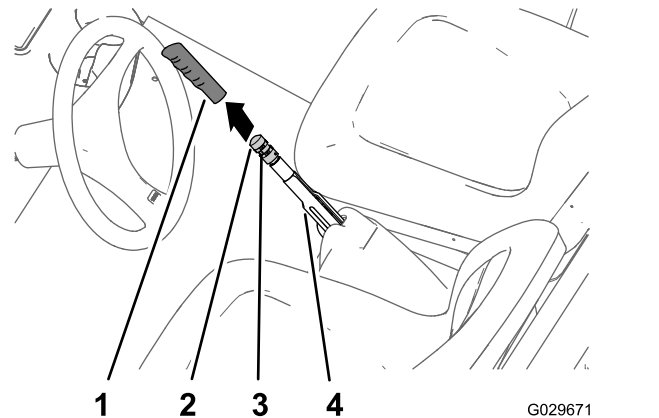

Figure 56
1. Remove the handgrip from the parking-brake lever (Figure 56).
2. Loosen the set screw securing the brake-adjustment knob to the parking-brake lever (Figure 56).
3. Rotate the brake-adjustment knob until you reach a force of 133 to 156 N (30 to 35 lbf) to engage the parking-brake lever (Figure 56).
4. Tighten the set screw and install the hand grip (Figure 56).
2. Loosen the set screw (Figure 56) securing the brake-adjustment knob to the parking-brake lever, disengage the parking brake, and loosen the brake-adjustment knob.
5. Rotate the brake-adjustment knob (Figure 56) until a force of 133 to 156 N (30 to 35 lbf) is required to engage the parking-brake lever.
- C. Rotate the brake-adjustment knob (Figure 56) until a force of 133 to 156 N (30 to 35 lbf) is required to engage the parking-brake lever.
- Tighten the set screw and install the handgrip (Figure 56).